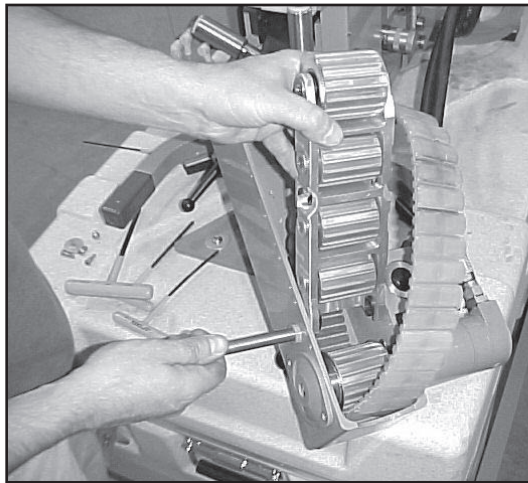

**Figure 7**
7. Loosen idler pivot shaft (Figure 7)